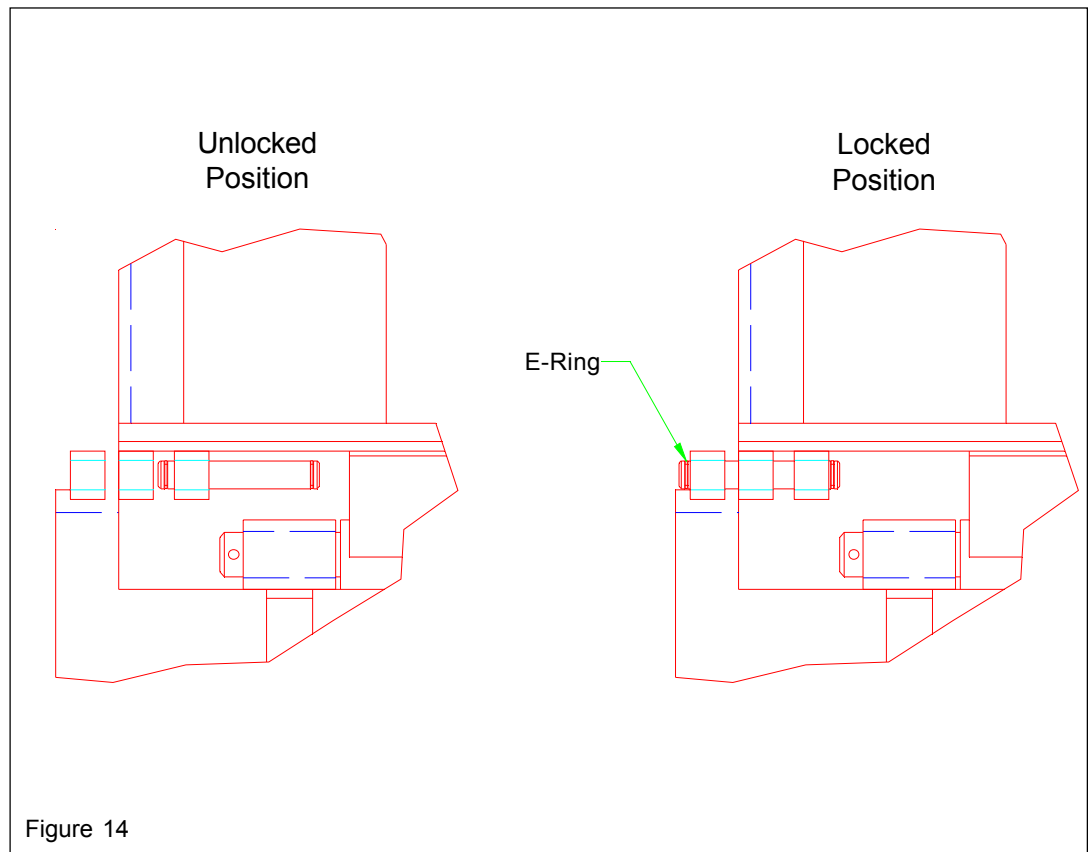

Figure 14
9. Before operating the railramp, the maintenance locks must be moved to the unlock position (See Fig. 14) on page 14.
To utilize the locking device, simply remove the "E" ring from the pin and slide the pin from position A to position B as shown in figure 14. Replace "E" ring to assure that pin does not slide out. Although this device offers additional protection from the railramps falling, it is not intended to support the Railramp should large forces be exerted to push the railramp down. For any maintenance that involves the removal of components, the railramp must be supported by some auxiliary lifting device.